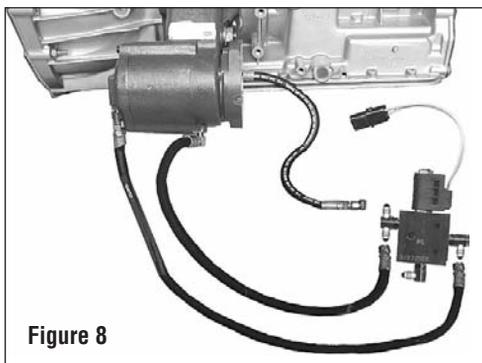

Figure 8
- 20b.** Connect the main pressure hose to the tee fitting at the "IN" port on the block. Connect the lubrication hose to the other side of the tee fitting. *Figure 8*